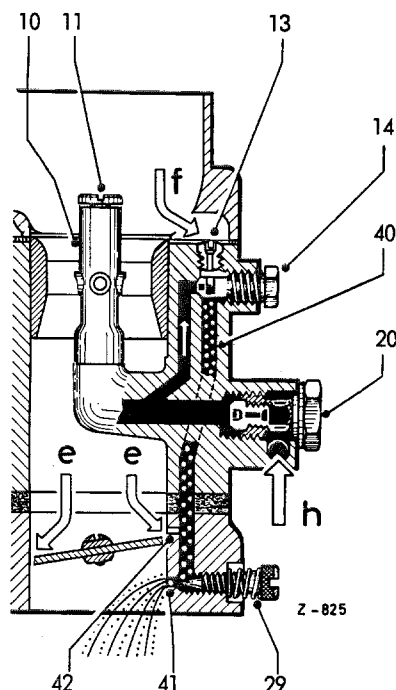

Fig. 07-0/7
The fuel which is drawn in via the idle fuel jet (14) is mixed with the air from the idle air jet (13), forming a mixture which passes into the idle canal (40). In the idle position a further supply of air for the idle mixture enters through the by-pass bores (42) above the throttle valve and then passes into the suction canal through the idle mixture bore (41) and combines with the air streaming through the throttle valve gap to form the final idle mixture (Fig. 07-0/7).